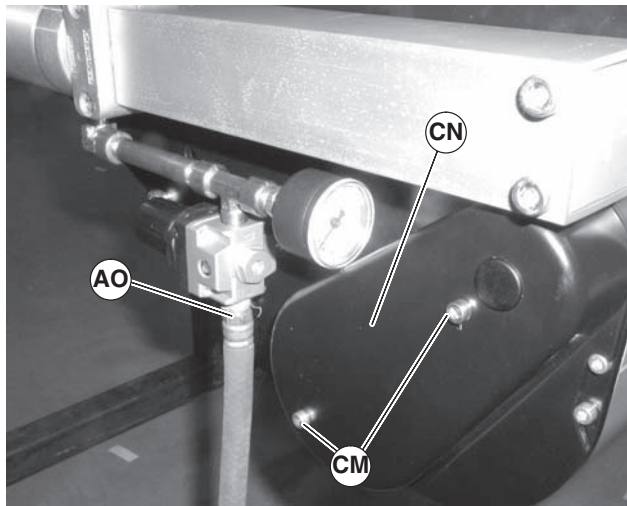

**Figure 90**
9. Reinstall spacer ring (Figure 90, item AK) and gearmotor (CP). Tighten screws (Figure 86, item CO) to 150 in-lbs (17 N-m).